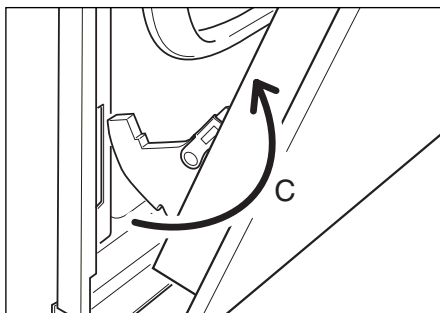

Fig.50e
- Withdraw the hinge hooks from their location following arrow "C" (Fig. 50e).